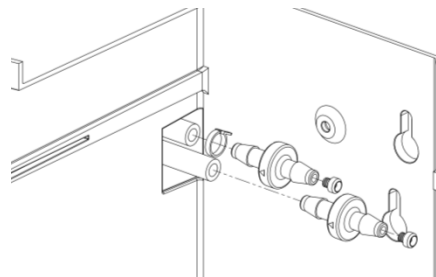

Figure 2
5. To install metering tips, locate the correct check valve in each compartment. Identify desired metering tip based on color and dilution rate on the tip chart for bottle and bucket filling (*Figure 2*)